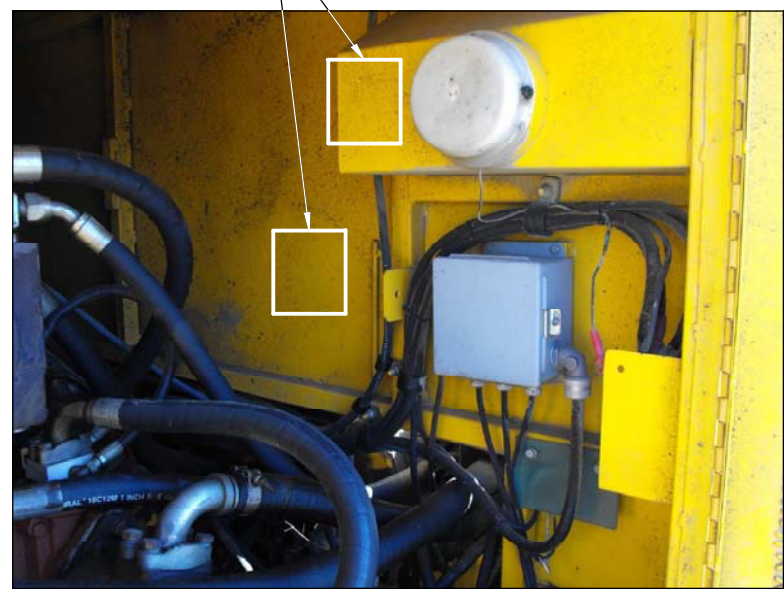

FIG 1. SUGGESTED LOCATION FOR CIRCUIT BREAKER MOUNTING
- a. This can be welded in place, or bolted on using the two 1/4" mounting holes (See Figure 1 on Drawing).
- a. This can be welded in place, or bolted on using the two 1/4" mounting holes (See Fig 1).